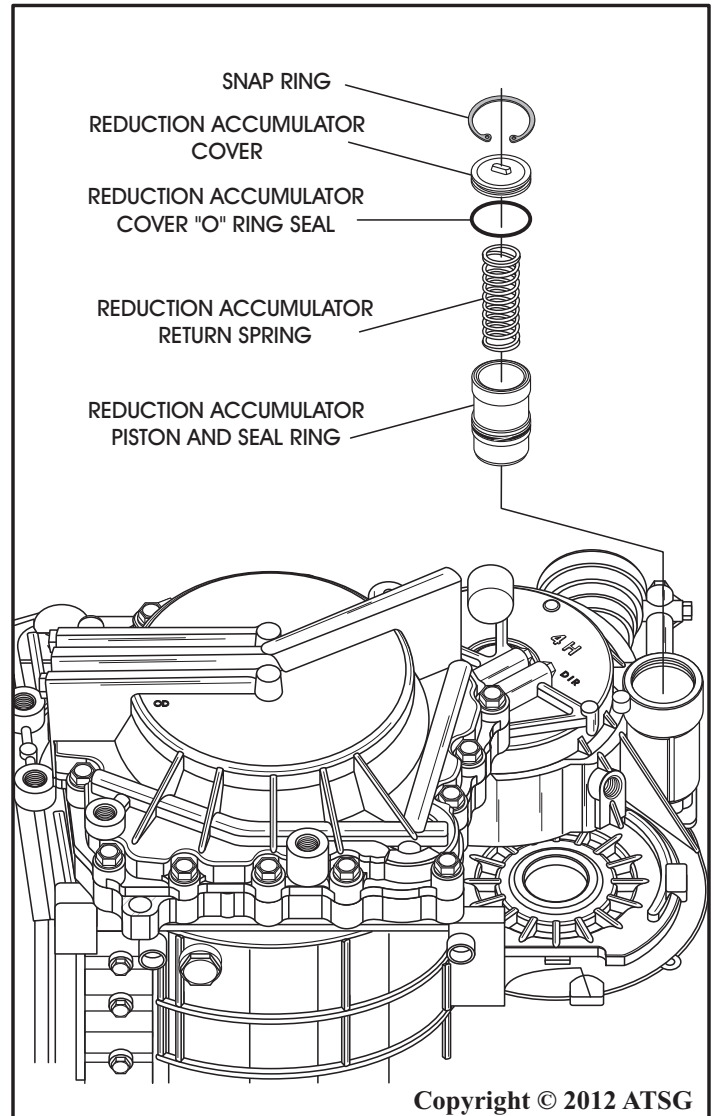

Figure 78
52. Rotate transaxle case on bench so that rear cover is facing up, as shown in Figure 78.
53. Remove the reduction accumulator snap ring, cover, return spring and accumulator piston, as shown in Figure 78.